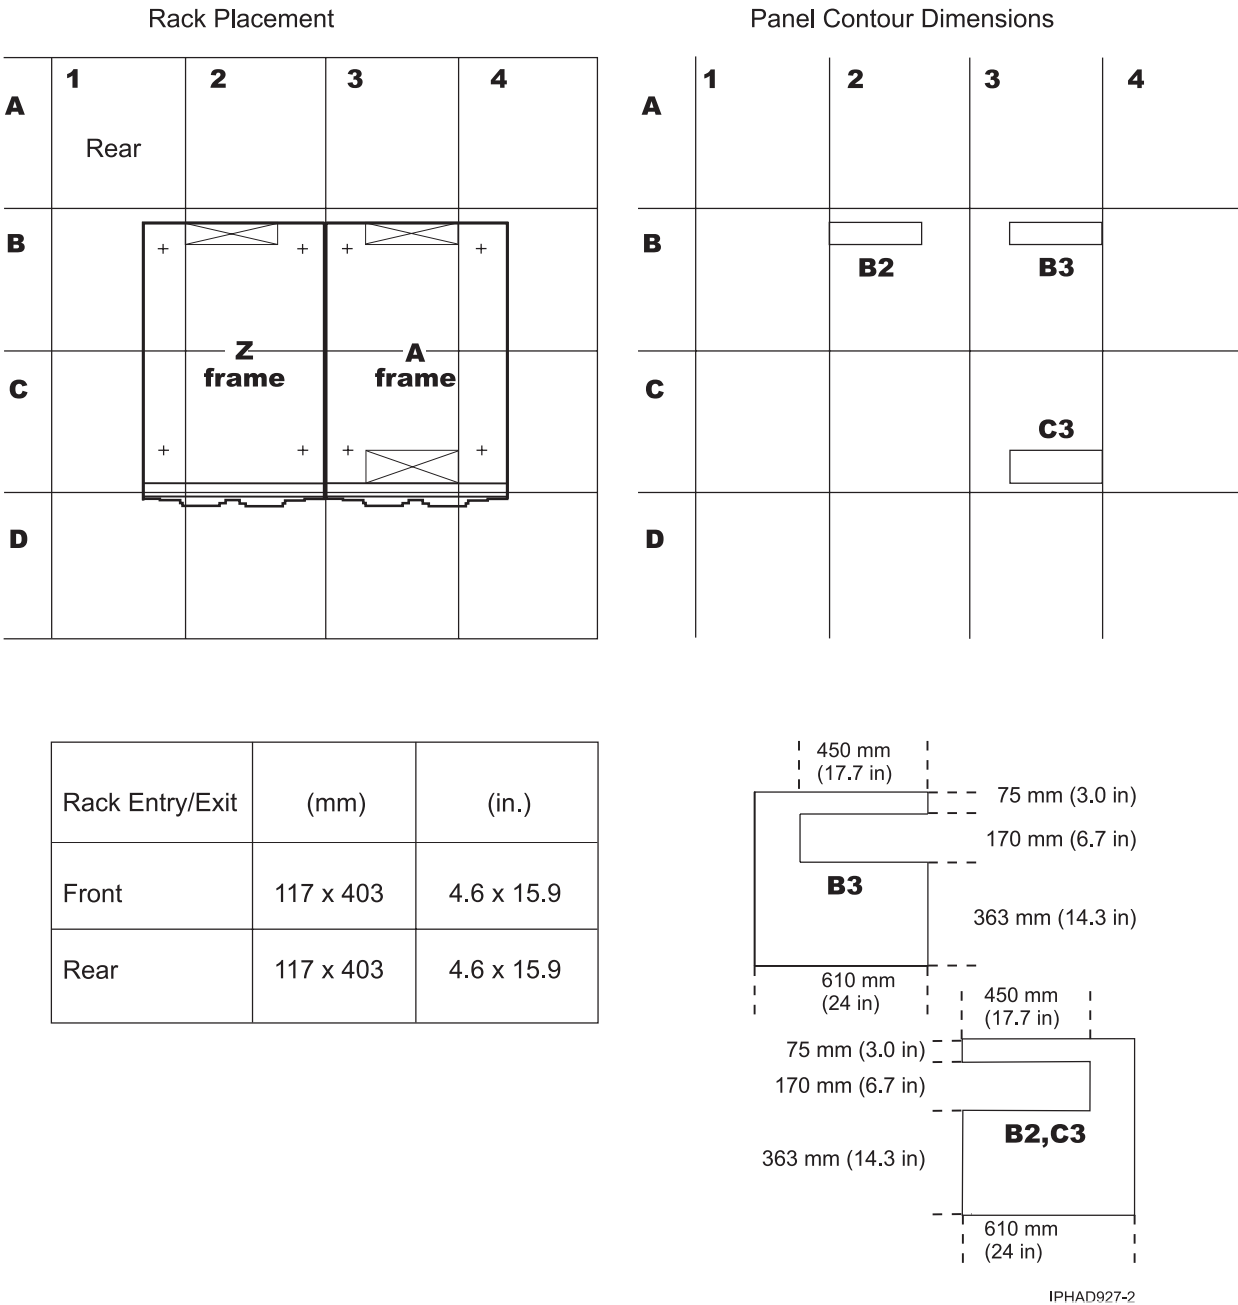

Figure 37. Raised floor with 610 mm (24 in.) floor panels figure
6. Use Figure 37 on page 112 to install the panels in the proper positions.